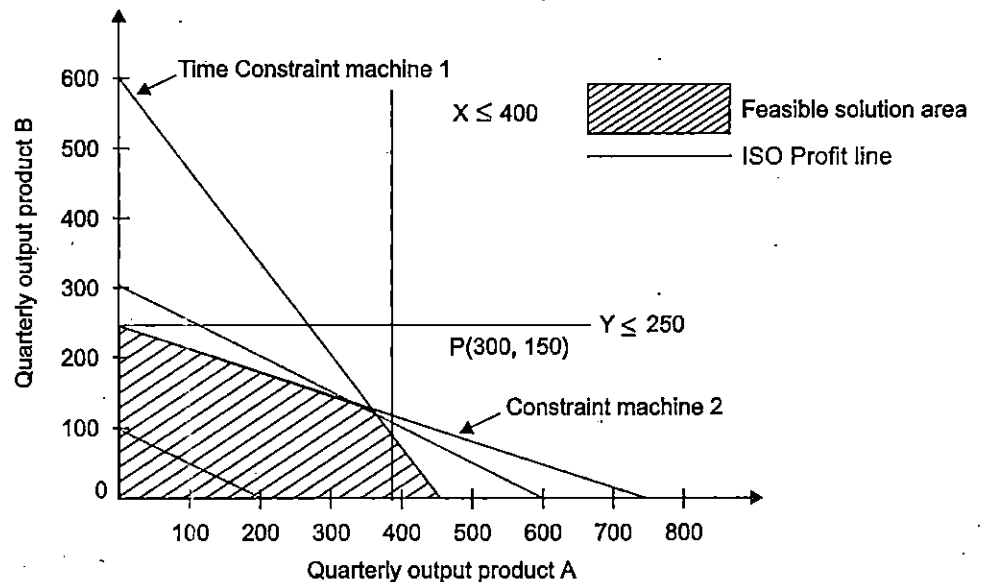

Fig. 2.1
Step 2. Plot the constraint equations in the graph as shown in Figure 2.1.
Step 3. Identify the area of feasible solutions as shown by the shaded area in Figure 2.1.